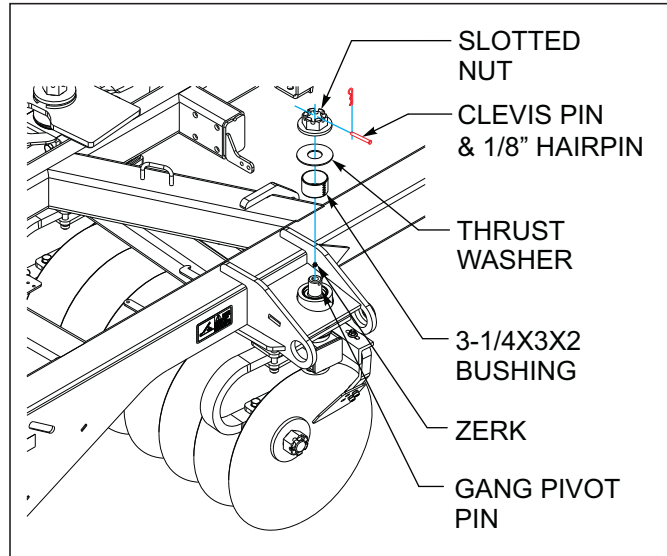

Figure 4-17: Gang Pivot Pin
6. The gang pivot pin will need greased annually (See Figure 4-17.). Remove the clevis pin. Check to see if gang pivot castle nut is still tight, if it is real loose remove pin and check for wear on pin or spring bushings. Replace pin or bushings if needed. If nut is still tight grease the zerk in top of pin and re-install the clevis pin.
| 7                 | Gang Pivot Pin              | 1 each - 4 total   | Annually (See Figure 4-17.)       |